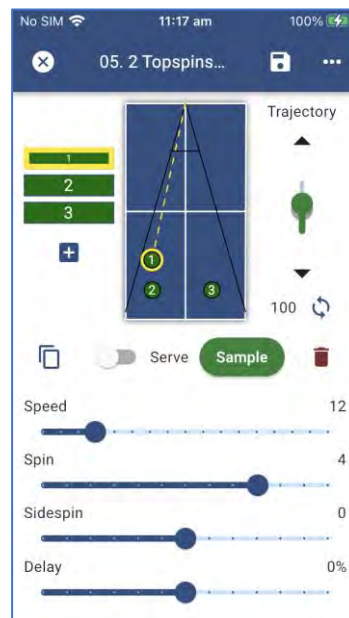

Figure 3-57
2. First, let's set the Placement for Ball 1 a little closer to the net. Do this by dragging Ball 1 so that it looks like Figure 3-57.